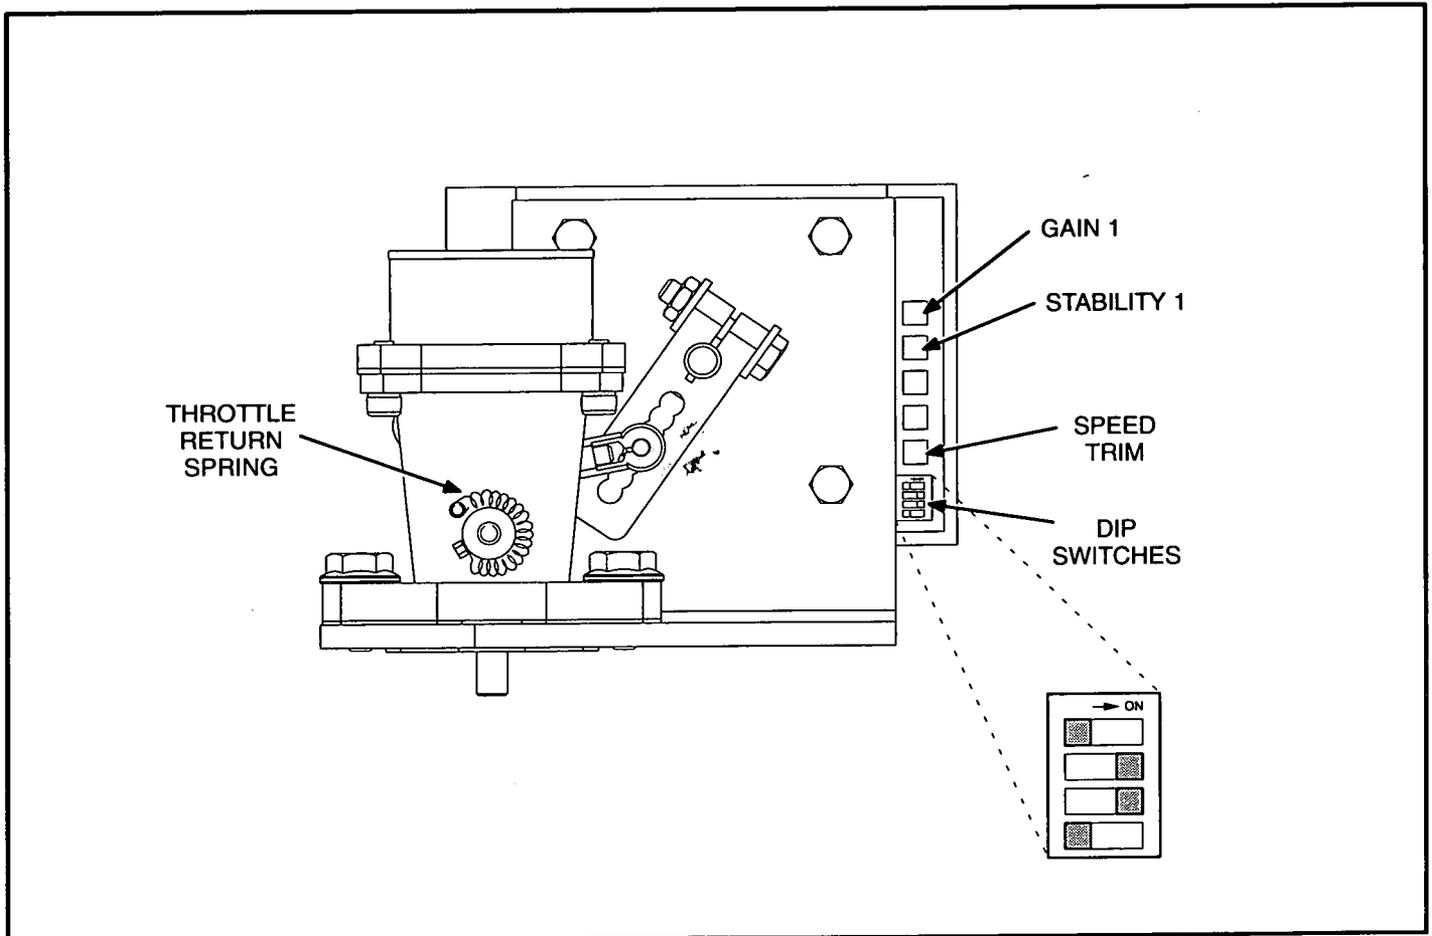

FIGURE 9. GOVERNOR CONTROLLER
1. Check the dip switch settings (Figure 9) to make sure they are set properly, as follows: